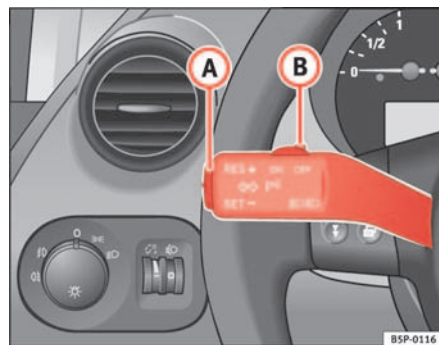

Fig. 144 Turn signal and main beam lever: switch and rocker switch for CCS
- Press the upper part **RES+** of the rocker switch ⇒ fig. 144 (A) to increase the speed. The vehicle will continue to accelerate for as long as you keep the rocker switch pressed. When you release the switch, the new speed is stored.
Control of the set speed is switched off if you reduce speed by depressing the brake pedal. You can reactivate the control by pressing once on the upper part of the rocker switch **RES+** ⇒ page 175, fig. 144 **(A)**.